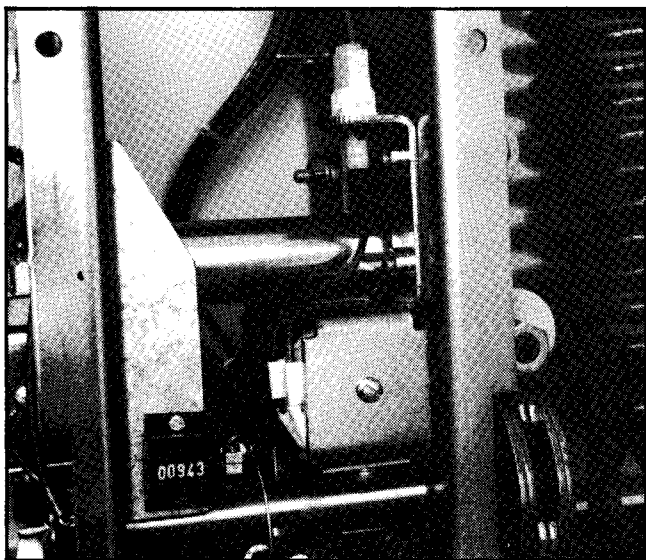

Figure 48. Terminals for Close Solenoid.
2. Check all terminals to be certain they are solidly attached to their respective device. **Figure 48** shows the terminals for the Close solenoid. The terminals of the trip solenoid and the spring charging motor are similar.